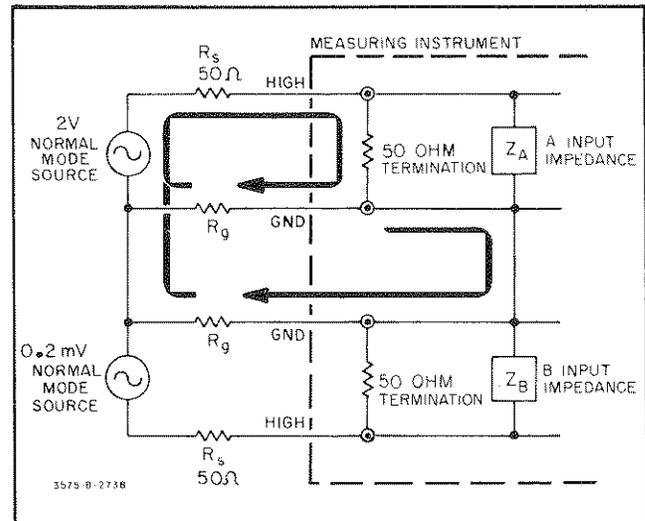

Figure 3-4. Source-Induced Ground Loop.
**3-13. Source-induced Ground Loop.** Figure 3-4 illustrates a ground loop that is introduced by the signal source. In Figure 3-4, the signal applied to channel A is 2 V rms and the signal applied to channel B is 0.2 mV rms. As illustrated in the figure, part of the current from the 2 V source returns through the ground lead of the 0.2 mV source producing a voltage drop across the ground lead resistance,  $R_g$ . As in the power-line ground loop, the source resistance,  $R_s$  and the ground lead resistance  $R_g$  are in parallel with  $Z_b$ . Due to the 50 ohm termination placed directly across  $Z_b$ , however, less than half of the voltage dropped across  $R_g$  is present across  $Z_b$ . Although this voltage is very small, it is large enough to affect the amplitude and/or phase of the 0.2 mV signal.